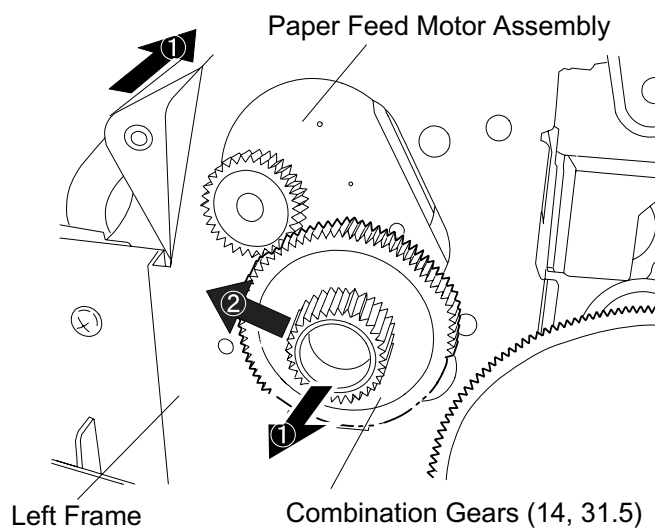

Figure 3-36. PF Motor Assembly Removal (2)
4. Push the PF motor assembly inward, holding the combination gears, and remove the PF motor assembly and the combination gears. (Refer to Figure 3-36.)